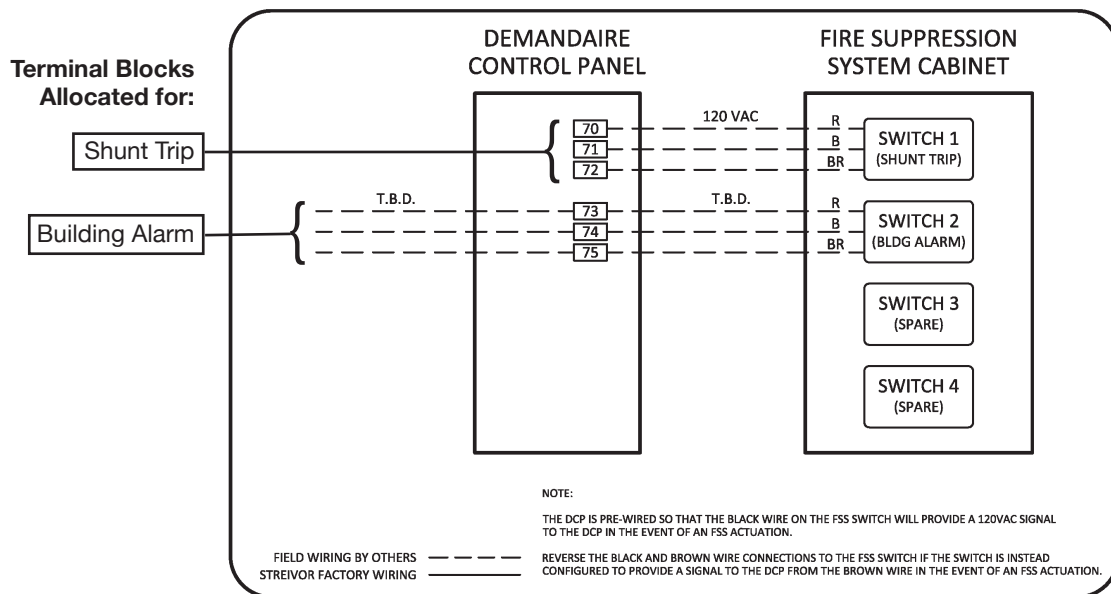

**FIGURE 7: Internal Hood Fan Power Circuit Wiring**
- Connect 120 VAC single phase power from terminal block 3 (hot), terminal block 4 (neutral), and ground in the control panel to the wires labeled “IHF” in the junction box on each hood (*Figure 7*).